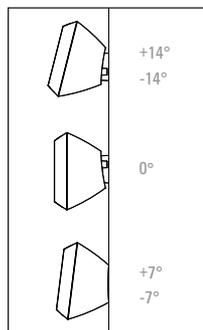

Fig. 10d
NOTE: Some LCR models have an angled back, and flush mounting will result in the speaker being tilted 7° up, down, left, or right. To mount this model parallel to the wall, follow the mounting instructions below and use the angle bracket at the 0° position (Fig. 10d).
- Mount LCR model with angled back parallel to wall (Fig. 10d).